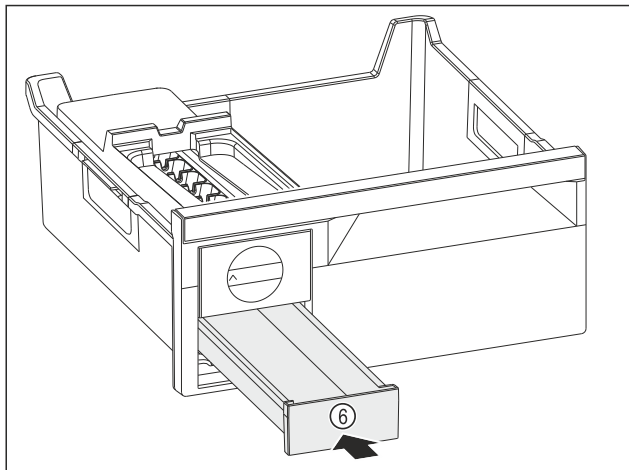

Fig. 177
- ▶ Insert the ice cube drawer Fig. 177 (6).